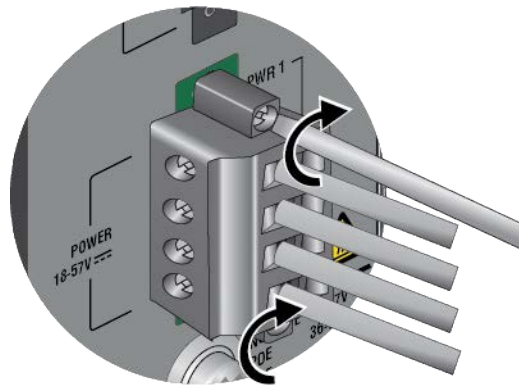

Figure 70. Tightening the Captive Screws to Secure the POWER Plug
3. Tighten the two captive screws to secure the POWER plug to the switch. Allied Telesis recommends tightening the screws to 5.0 in-lbs (0.55 Nm). Refer to Figure 70.